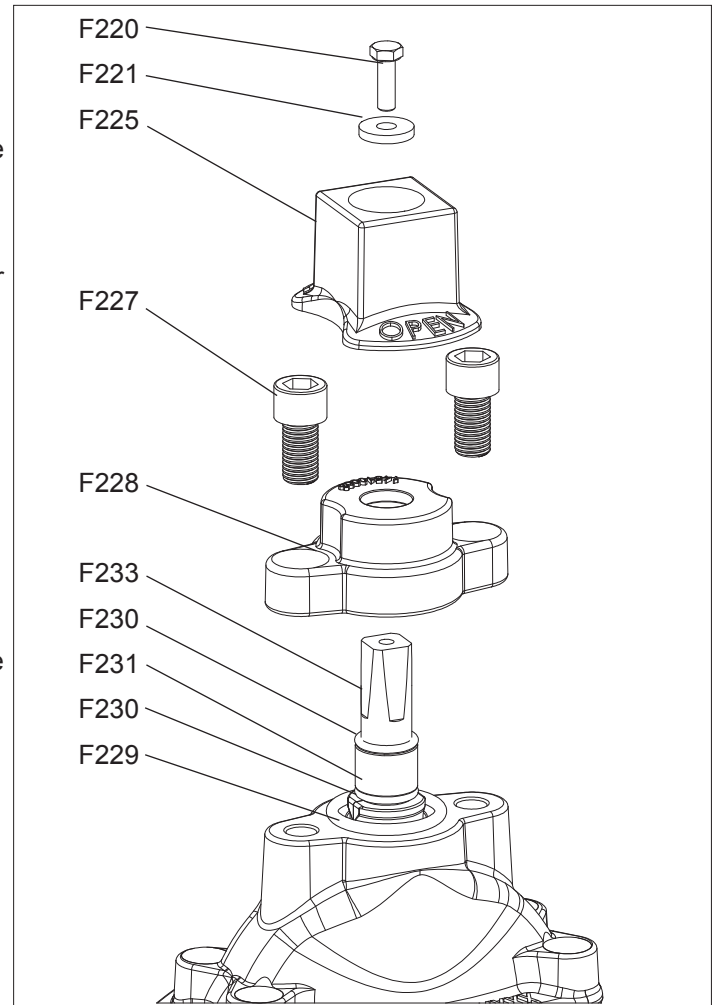
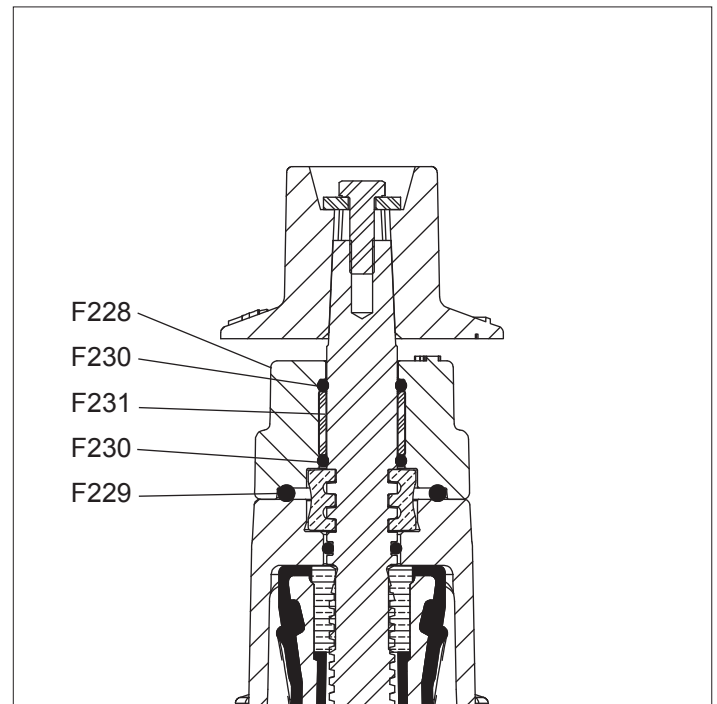

Fig. 4A
Fig. 4B
1. Remove the Wrench Nut Bolt (F220) and Wrench Nut Washer (F221) using a 1/2", (13mm) wrench, for 2 1/2" to 4" valve sizes, and 11/16", (17mm) wrench for 6" to 8" valve sizes. Remove the Wrench Nut (F225). (See Fig.4A)
4. When performing step 3, verify the location of the Upper Stem Seal O-rings, quantity 2, (F230) and the Stem Seal Bushing (F231). They may be located on the Stem (F233), (See Fig. 4A), or in the counterbore of the Gland Flange (F228), (See Fig. 4B).
5. There is a groove or recess in the bottom of the Gland Flange (F228), for the Gland O-ring (F229). (See Fig. 4B)